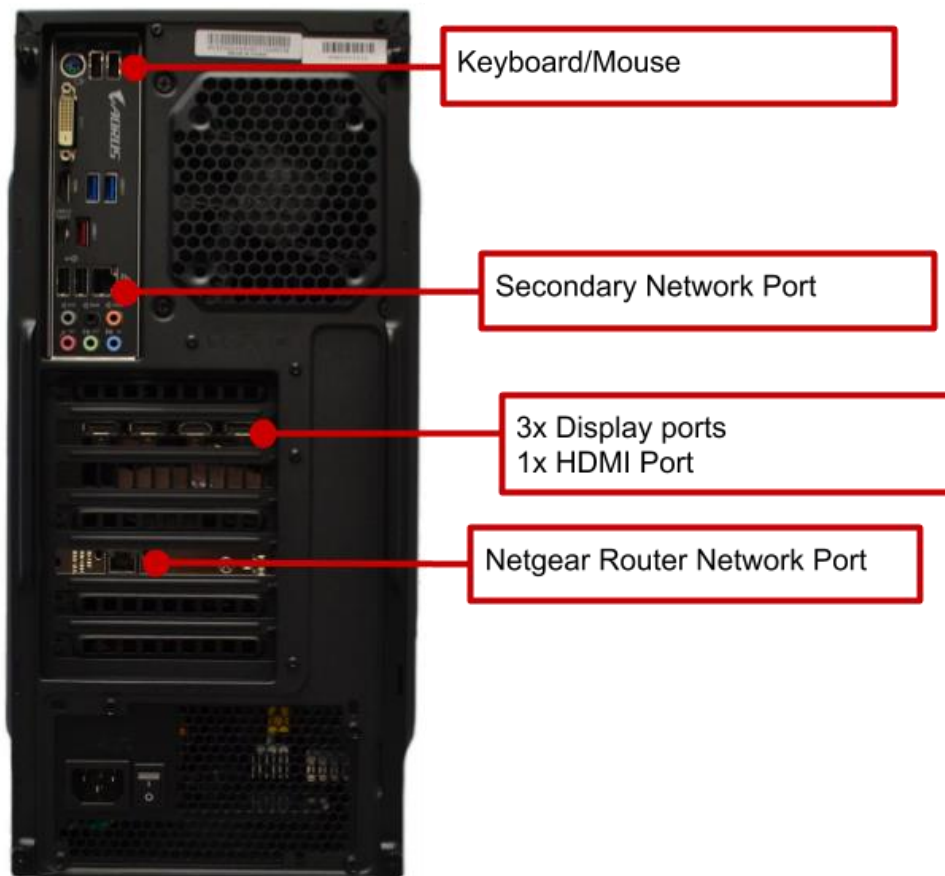

Figure 2. Self-Driving Car Research Studio PC peripheral inputs.
To wire the Self-Driving Research studio in this scenario please use Figure 2, as reference: You may use the **secondary** ethernet port available on the Self-Driving Car Research Studio PC to connect the ground station PC to any additional networks required by your institution. During the set up for the ground station it is always recommended that the user have a full view of the workspace where the QCar will be operating.
3. Connect the other end of the ethernet cable directly into the ground control station PC using the Ethernet port at the bottom (the PCI-Ethernet adaptor port, see Figure 2).